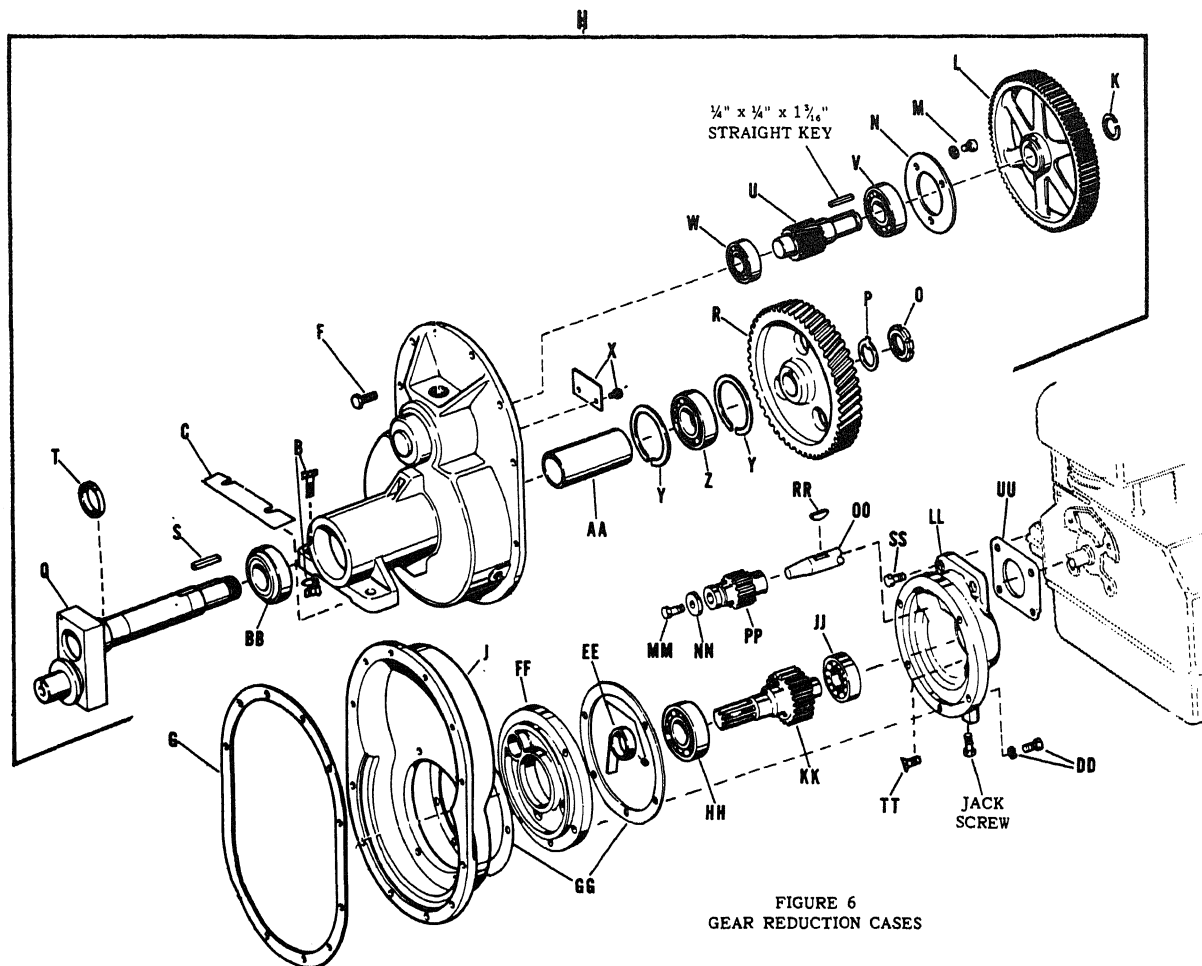
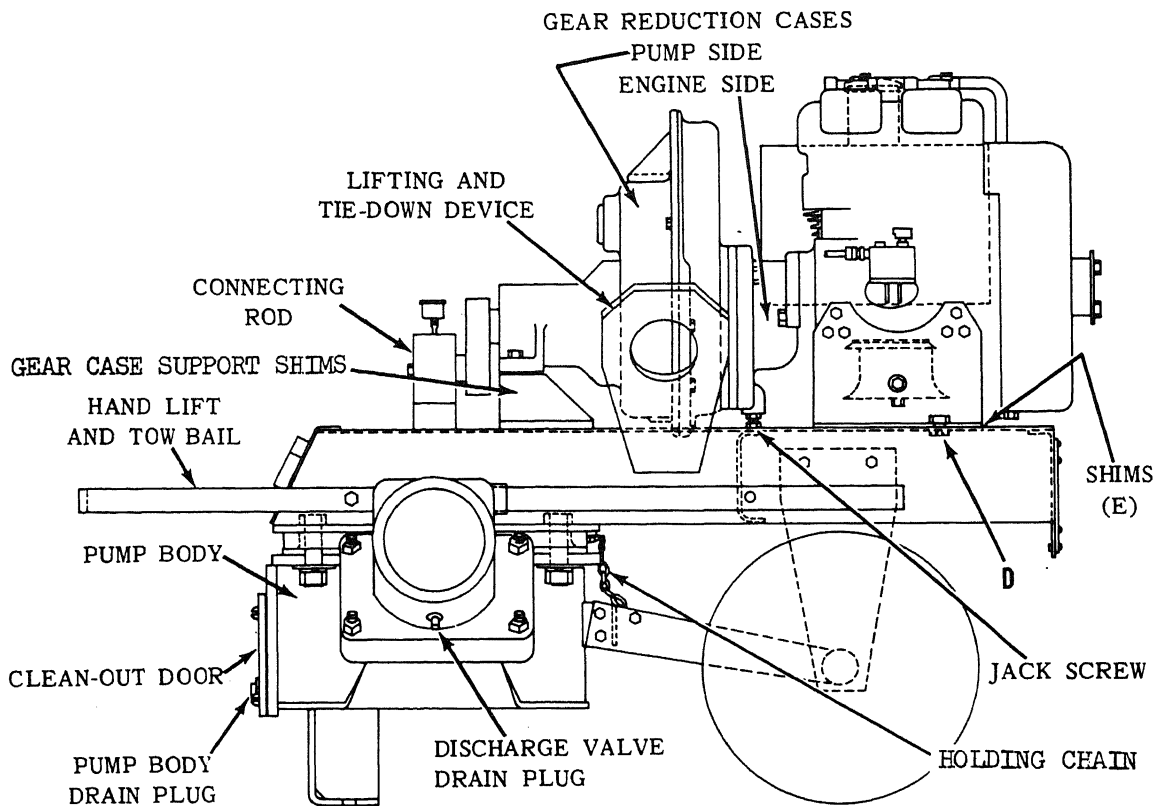

FIGURE 6
FIGURE 7
2. Gearcase (pump side) Disassembly and Assembly -- (Ref. Fig. 6 and 7)
- C. Ref. Fig. 6. Remove the two $\frac{1}{2}$ " bolts, lock washers and nuts (B) holding gearcase to the gearcase support. Ref. Fig. 7. Remove two bolts with lock washers and nuts (D), Fig. 7, holding engine to frame. Save shims (C) Fig. 6, and shims (E) Fig. 7 for reuse.
- E. Twelve $\frac{5}{16}$ " cap screws (F) holding the cover halves together. Remove these bolts and pull reduction case assembly (H) from intermediate section (J). Gasket (G) should be replaced new in reassembly.
- F. Pry out snap ring (K) and pull spur gear (L) off pinion shaft (U). The $\frac{1}{4}$ " straight key may be saved for reuse if not damaged.
- G. Remove three $\frac{5}{16}$ " socket head cap screws with lock washers (M) and retainer (N).
- H. Straighten ear of lock washer (P). Remove lock nut (O) and washer (P). Pull output shaft crank arm (Q) from housing (A). Retain gear (R) from falling. Remove key (S) and manipulate gear (R) from housing. Remove spacer (T).
- I. Pull pinion shaft (U) with bearings (V) and (W) from housing. Bearings (V) and (W) may be removed from pinion shaft.
- J. Remove the two round head screws and oil trap (X), and snap ring (Y).
- K. Bearing (Z) may be pulled from bore of housing. Pull out spacer (AA) and pull out bearing (BB) from housing, and inner snap ring (Y).
23. Gearcase (engine side) Disassembly and Assembly (Ref. Fig. 6)
- A. Remove the $\frac{1}{4}$ " socket set screw and oil slinger (EE). Note position of oil slinger for reassembly to prevent damage to oil slinger.
- B. Remove five $\frac{1}{4}$ " cap screws with lock washers (DD). Housing (J), bearing retainer (FF), gaskets (GG), bearings (HH) and (JJ) with pinion shaft (KK) may now be pulled from housing (LL).
- C. Pull bearings (HH) and (JJ) off pinion shaft (KK).
- D. Remove cap screw (MM) with lock washer and special washer (NN) from engine shaft (OO). Pinion (PP) is grooved for removal with a puller. Remove pinion. Remove woodruff key (RR) from shaft (OO).
- E. Remove three cap screws (SS) and internal flat head cap screws (TT) from housing. Pull housing (LL) with gasket (UU) from engine housing.
Reference for Fig. 6
5. Lifting and Tie Down (Ref. Fig. 7)